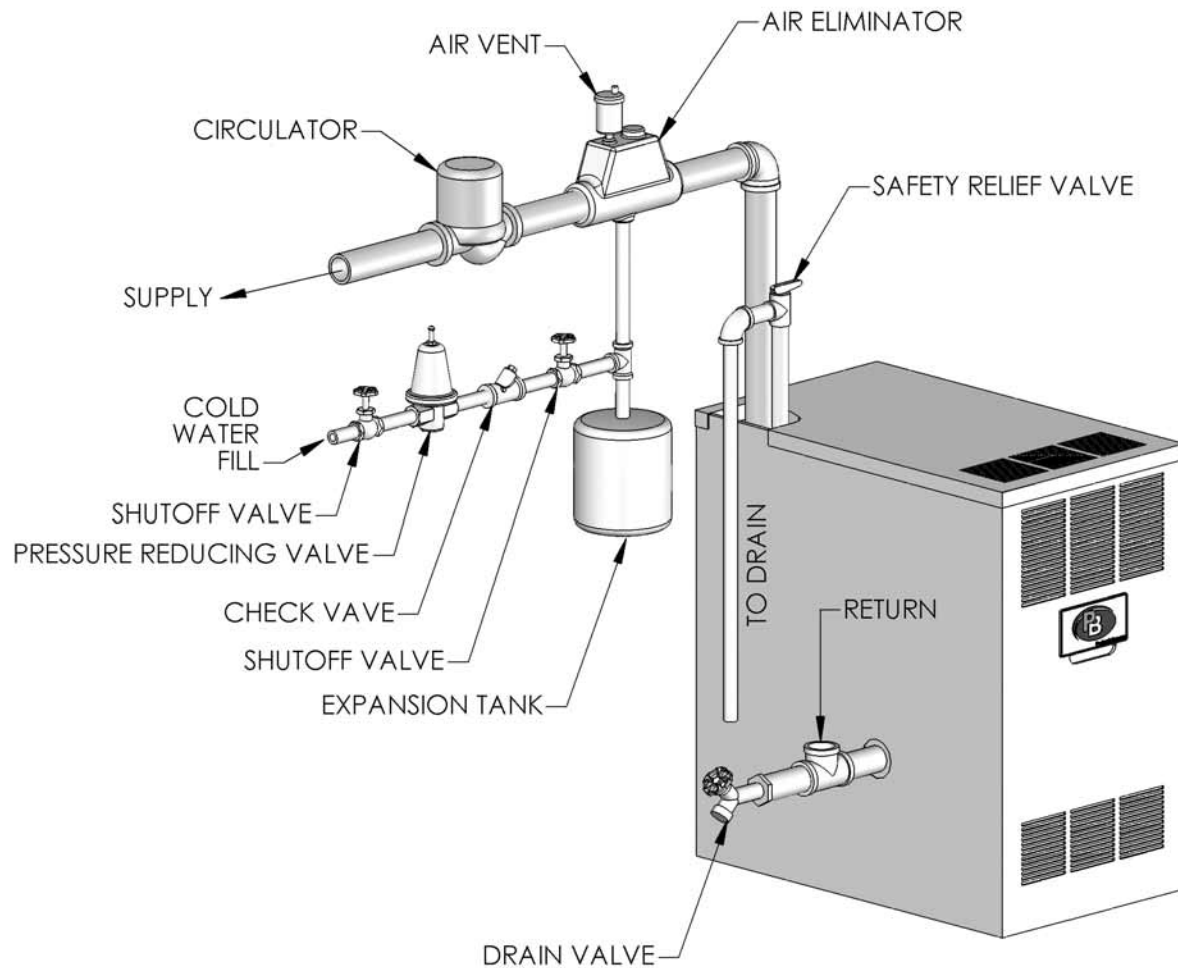

Figure 3.1: Supply and Return Piping
1. Size the supply and return to suit the system. A typical piping arrangement is shown in Figure 3.1. Refer also to the I=B=R Guide to Residential Hydronic Heating Installation/Design and the PB Heat, LLC Water Survey for additional guidance during water piping installation.
5. If desired, install the circulator in the alternate location shown in Figure 3.1. Consult the PB Heat, LLC Water Survey for more information on circulator location.
Refer back to Figure 3.1 for typical expansion tank piping.